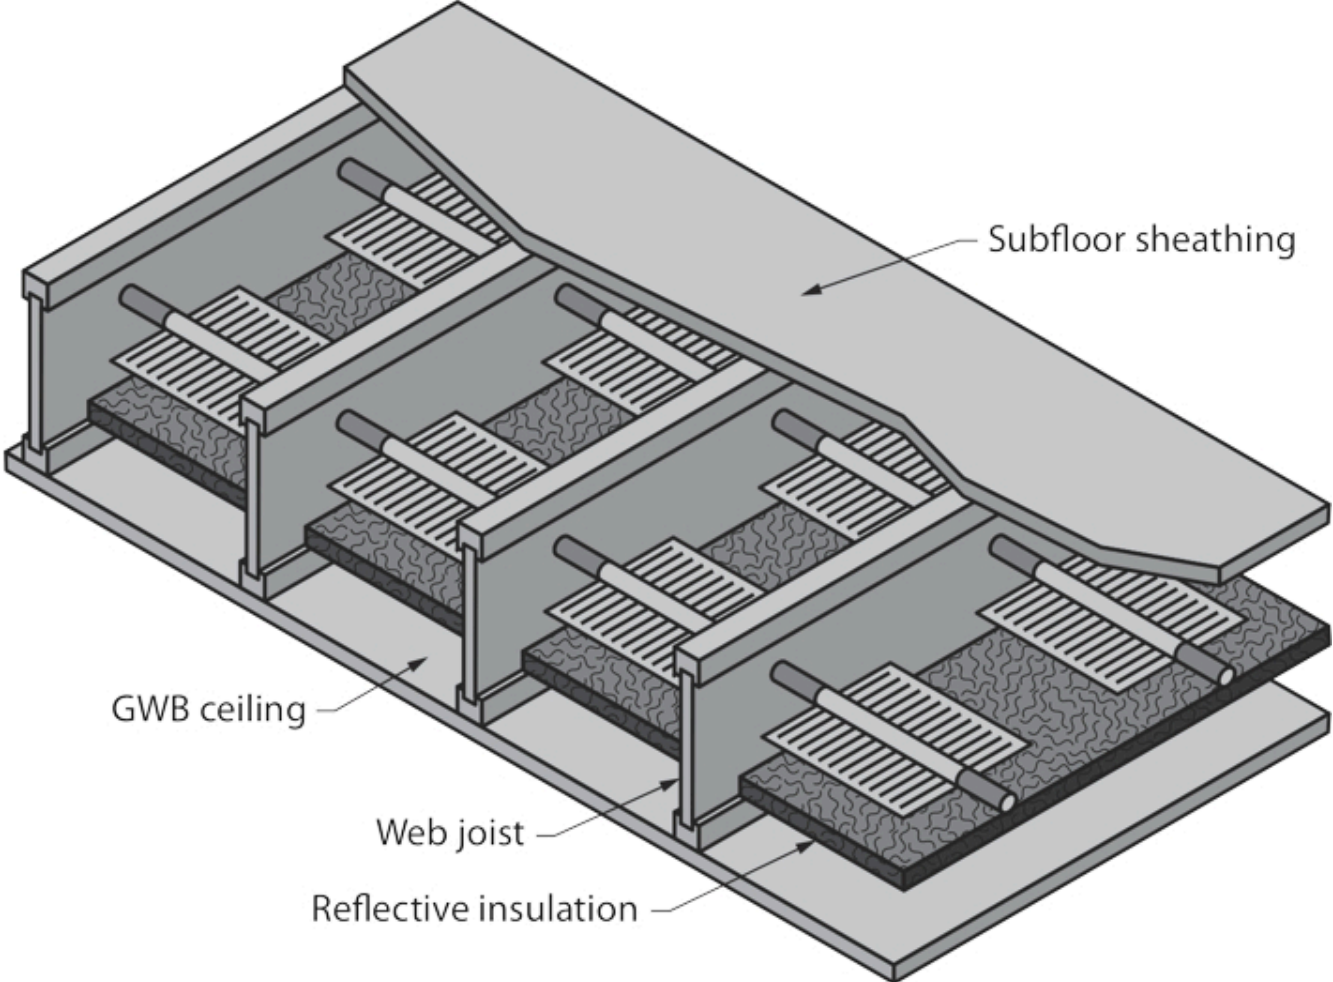

Figure 8 Finned plates in a dry system
- Figure 8 Finned plates in a dry system by ITA is licensed under a CC BY-NC-SA licence.